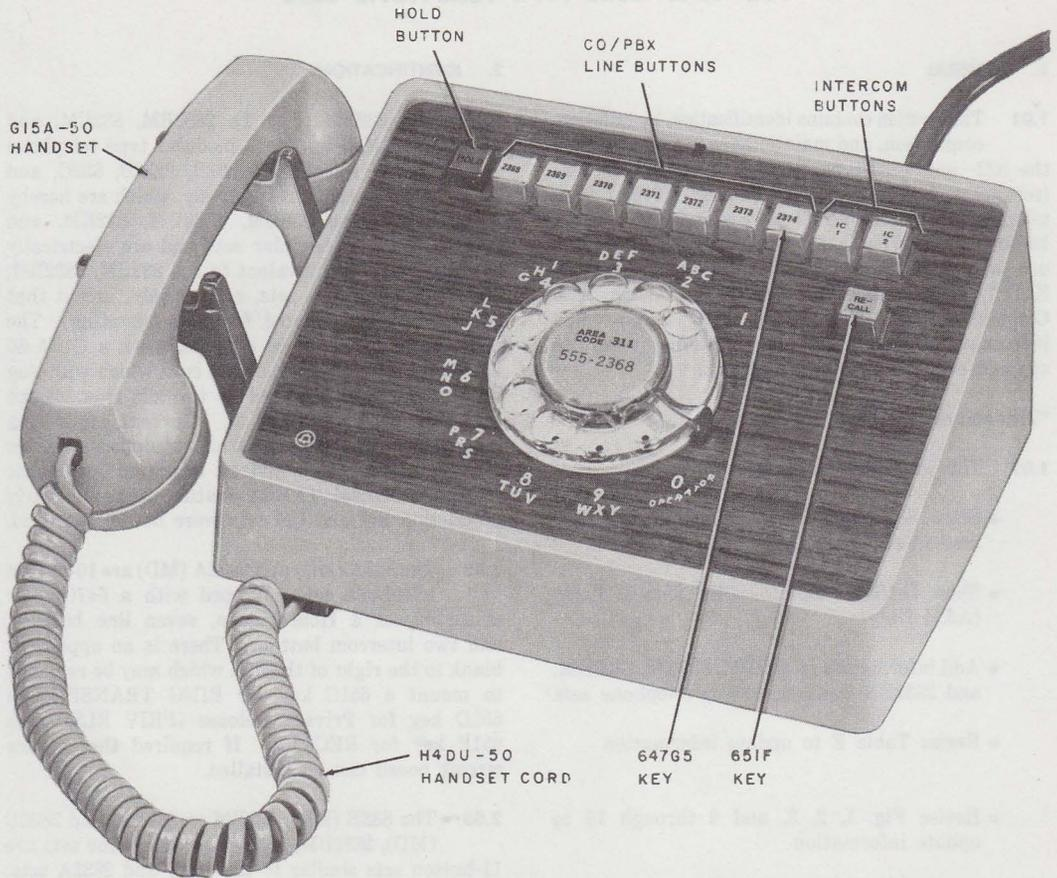
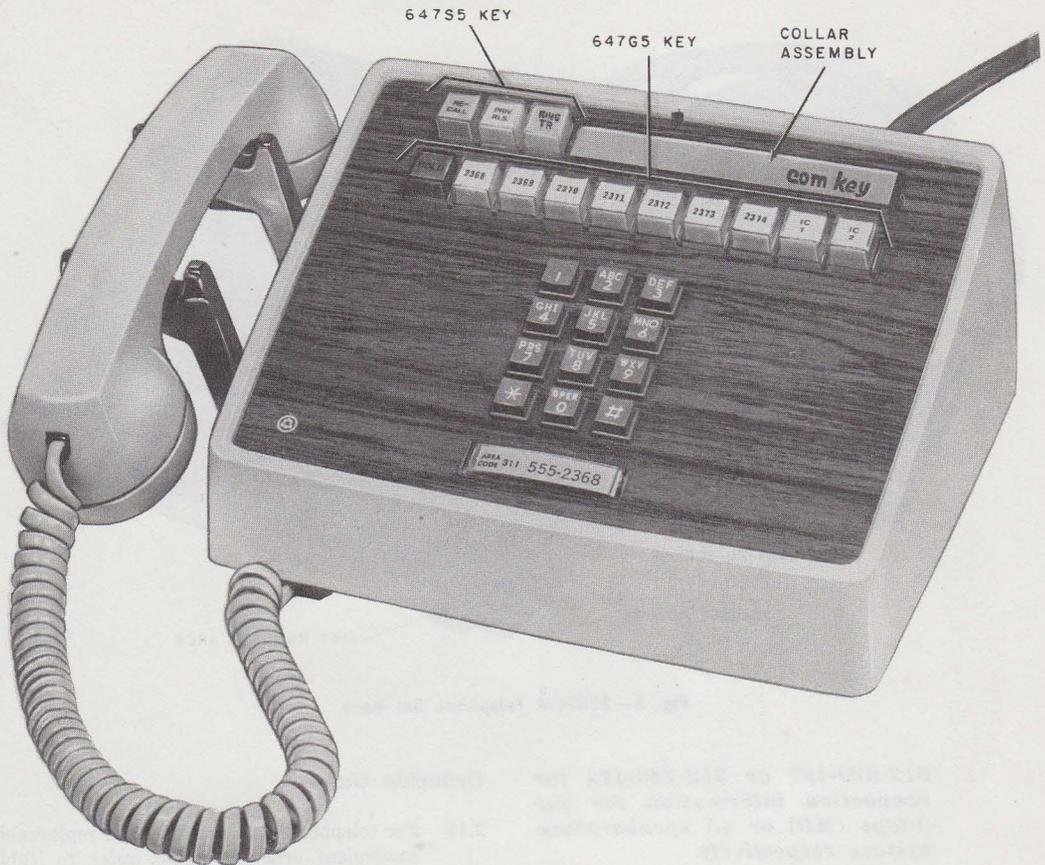

Fig. 1—832BM Telephone Set
Fig. 2—2832CM Telephone Set
- Revise Fig. 1, 2, 3, and 6 through 15 to update information
2.01 The 832BM (Fig. 1), 2832BM, 832CM, and 2832CM (Fig. 2) are modular type telephone sets and will replace the 832B, 2832B, 832C, and 2832C telephone sets, respectively, which are hereby rated MD. The 832DM, 2832DM, 832EM, and 2832EM are also modular sets and are electrically and functionally equivalent to the 832BM, 2832BM, 832CM, and 2832CM sets, respectively, except that they have been adapted for wall mounting. The modular sets will all be equipped with a G15A-50 handset and H4DU-50 handset cord which will plug into a 616T jack mounted on the left front of the telephone set base (Fig. 3). Current production models of these sets also are equipped with an improved line switch and an improved Automatic Button Restoral (ABR) feature. Some early production BM and CM sets were not so equipped.